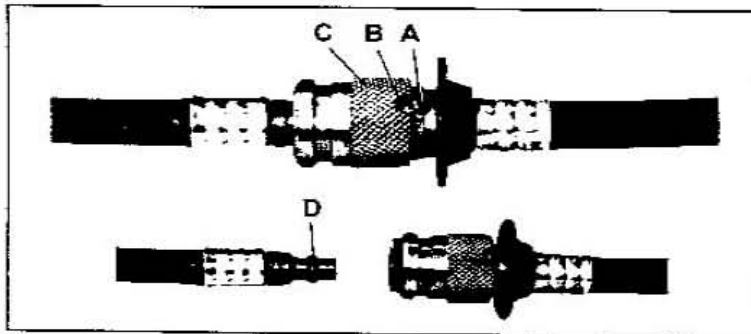

FIGURE 9
- i) Rotate sleeve "C" until notch "B" lines up with rivet head "A" on the socket (Figure 9).
- ii) Slide sleeve "C" back toward the plastic guard and plug "D" will separate (Figure 9).